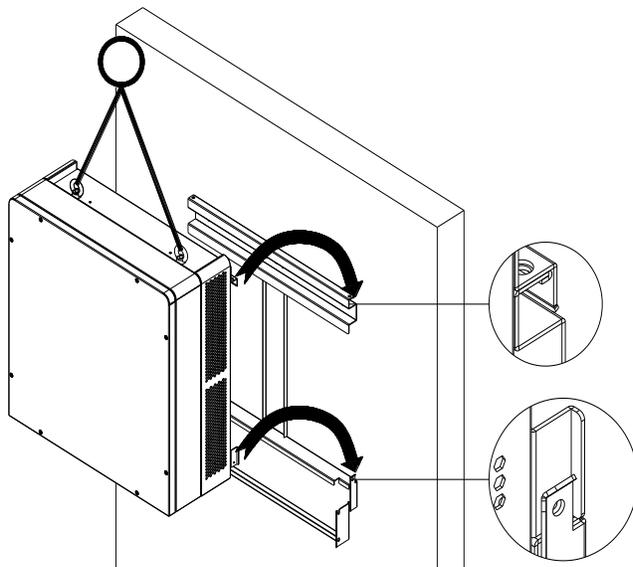

**Figure 3.5 Inverter Wall Bracket Mounting**
**1-**Mark the 8 holes on the bearing surface using the available mounting bracket as a template as shown in Figure 3-5.